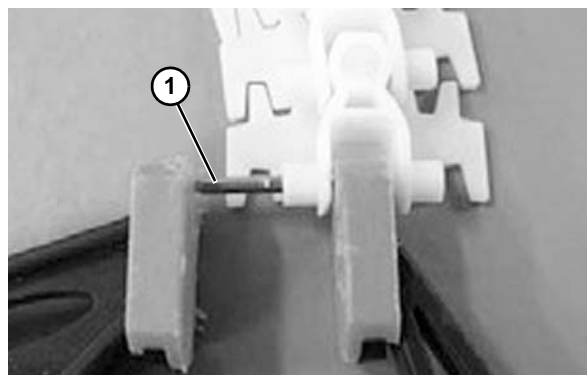

Figure 50
2. Insert the steel pin (**Figure 50, item 1**) halfway, using a pair of pliers. Always use new steel pins and plastic pivots when joining chain ends.